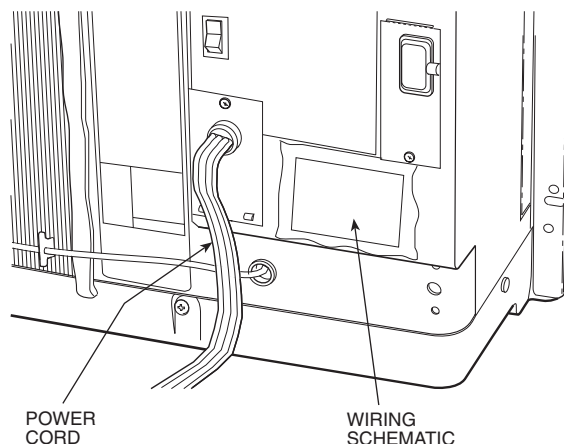

FIGURE 58 — LOCATION OF WIRING SCHEMATIC ON FRONT PANEL OF CONTROL BOX
6. Open the Control box as described in the **UNIT DISASSEMBLY** section, **Open the Control Box**. Disconnect the fan motor wires from the rotary switch and capacitor. All units are equipped with two-speed motors, which have 2 wires on the capacitor and 2 wires on the rotary switch. Refer to the unit wiring schematic which is attached to the front panel of the control box. See Figure 58.